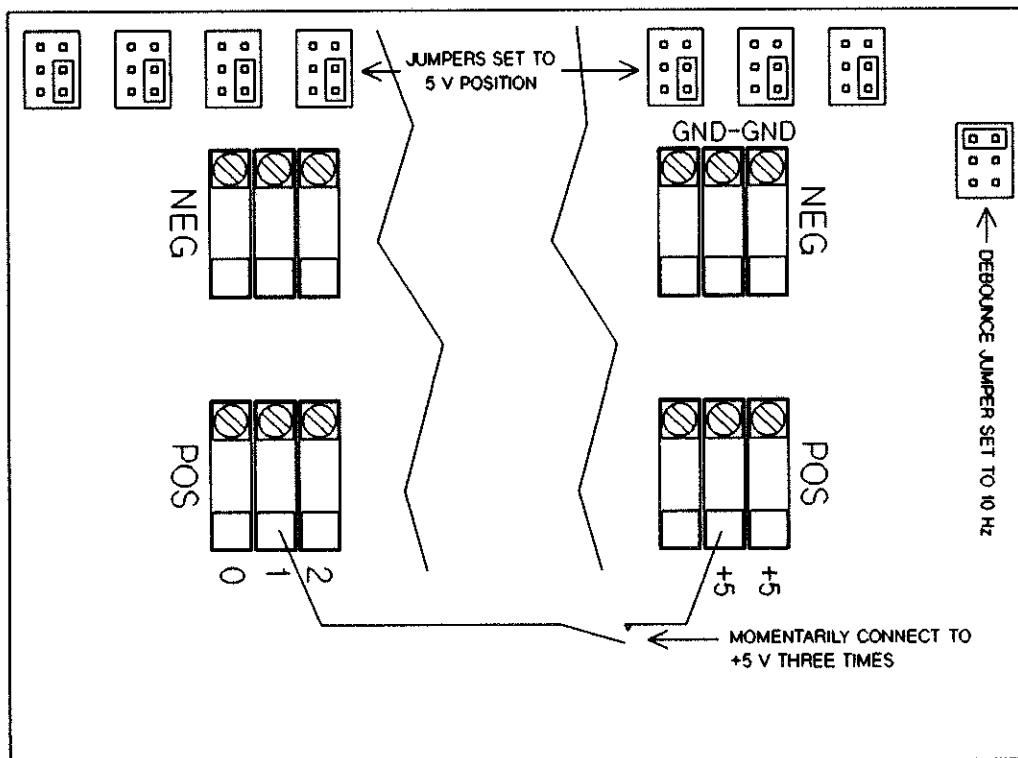

Figure 12-9 Odd Channel Counter Test
11. Refer to Figure 12-9. With a jumper, momentarily connect the shorted odd numbered channel POS (positive) connections to the +5 V connection three times.